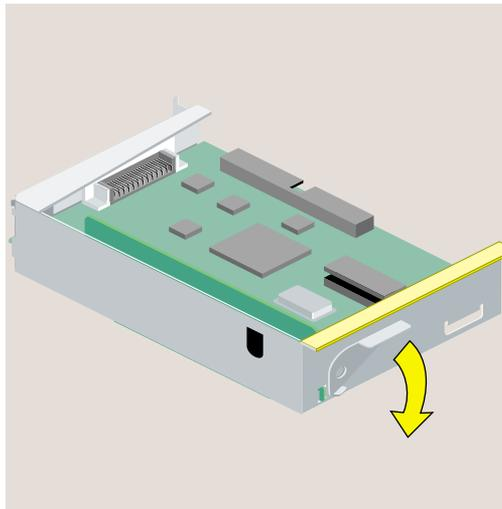

Figure 2-41 Returning the Lever to its Starting Position
1. Push the lever to return it to its starting position (Figure 2-41).